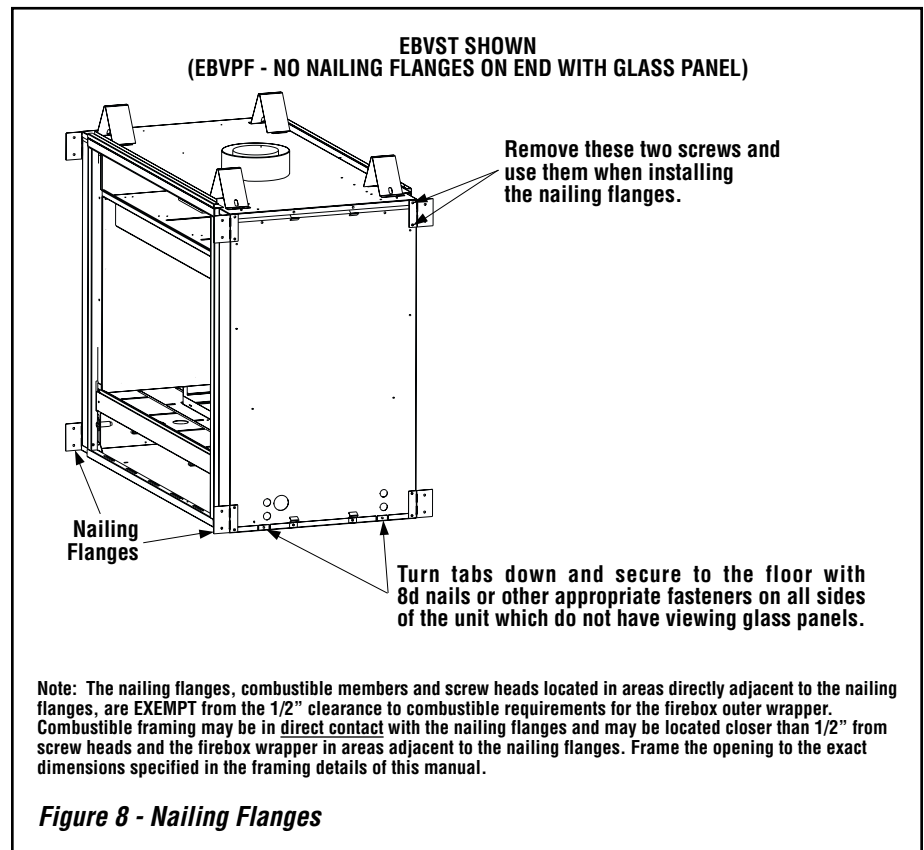

Figure 8 - Nailing Flanges
****NOTE:** See Page 9, Step 1 and Figure 8 for clearance requirements to the nailing flange located at each side of the unit and any screw heads adjacent to it.
The fireplace should be secured to the framing at the side(s) and/or rear of the unit using the factory-provided nailing flanges. Install the nailing flanges - 8 (EBVST), 4 (EBVPF) - as shown in **Figure 8** using the existing screws.
Secure the fireplace to the floor as shown in **Figure 8**.